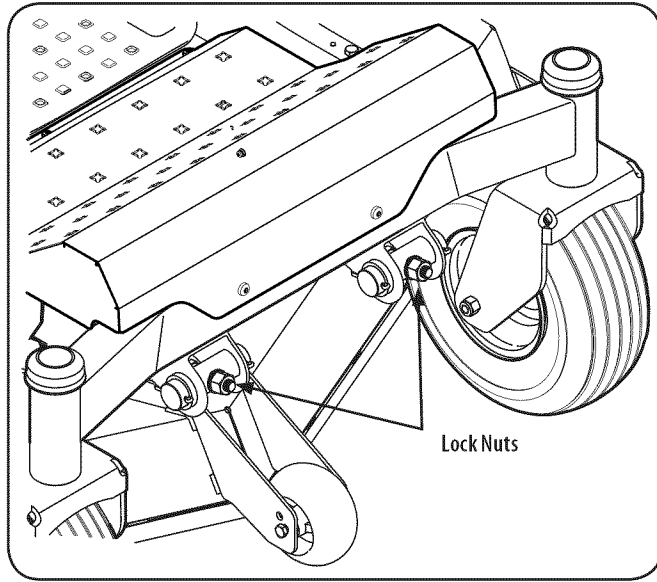

Figure 21
5. Using a wrench, raise or lower the front of deck by turning lock nut on the front deck lift rod and secure with the rear jam nuts. See Figure 21.